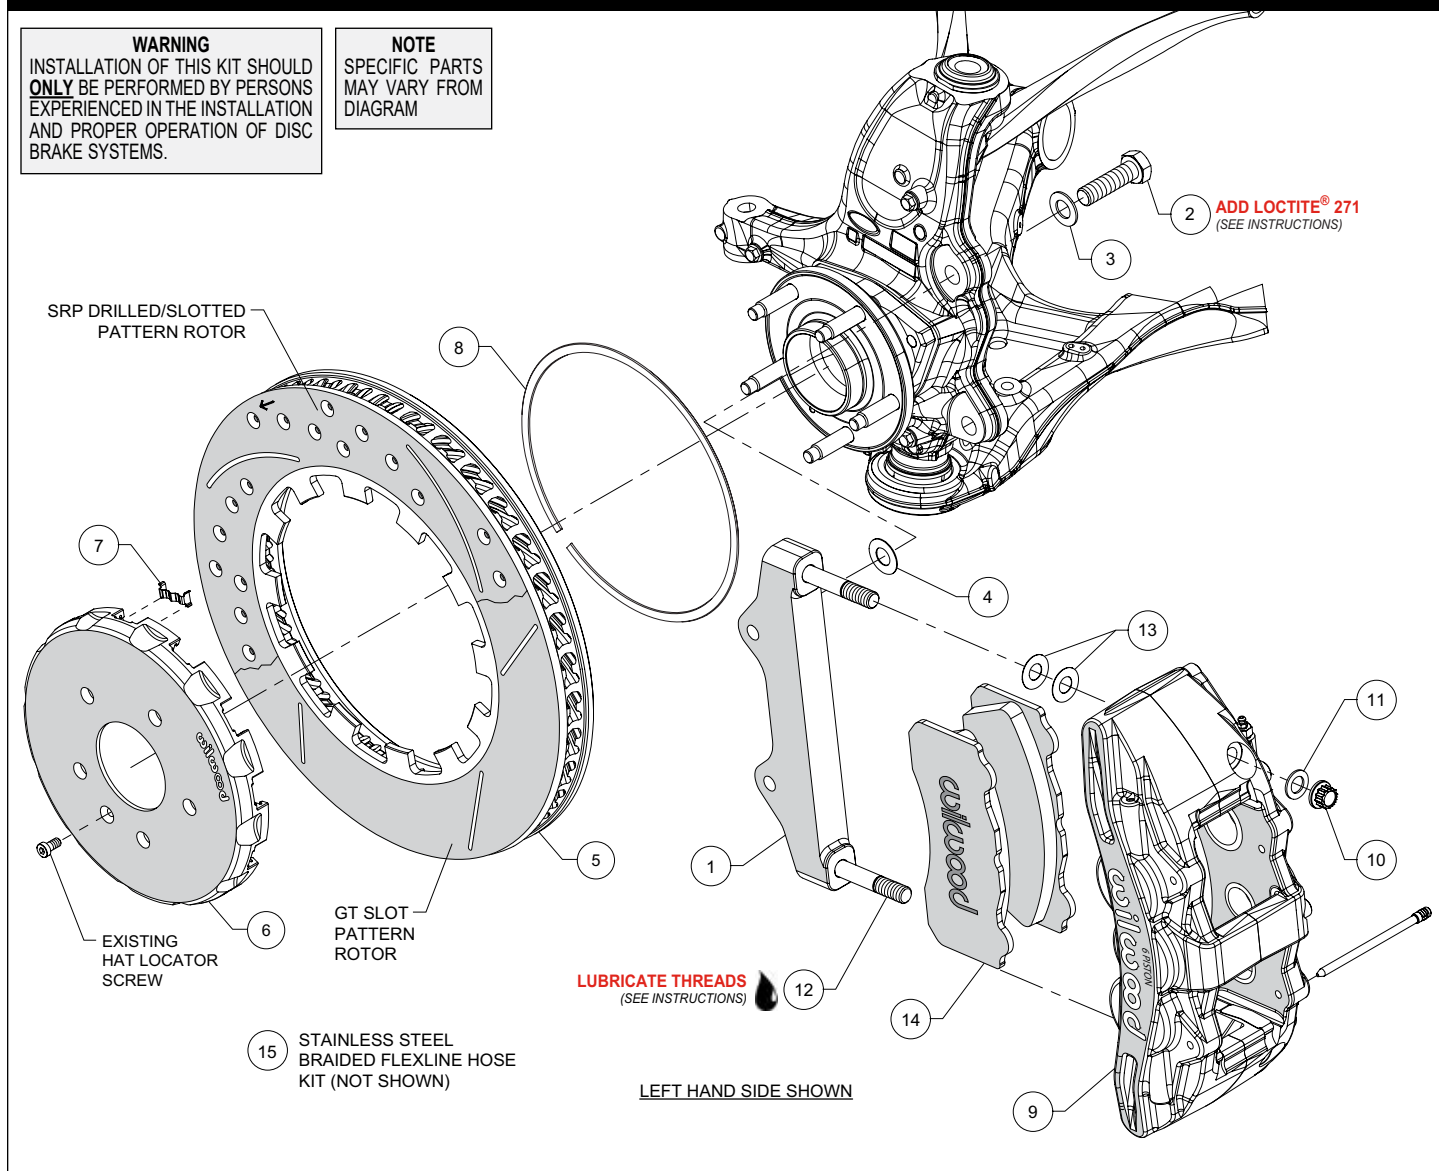

Figure 1. Typical Installation Configuration
NOTE: Numbers in parenthesis refer to the parts list and Figure 1 on the preceding pages.
- The caliper mount bracket (1) should initially be installed with clean, dry threads on the mounting bolts. Orient the bracket, as shown in Figure 1 and Photo 1, and install using bolts (2) and washers (3). Initially place one .029" thick shim (4) on each bolt
between the bracket and upright, Figure 1. Temporarily tighten the mounting bolts. **NOTE:** The bracket must fit squarely against the mount bosses on the upright. Inspect for interference from casting irregularities, machining ridges, burrs, etc. Later, after the caliper alignment has been checked, the mount bolts will be secured using red Loctite® 271.
- Insert the dynamic mount wear clips (7) into the slots in the hat (6), Photo 2. Orient the rotor (5) as shown in Figure 1 and Photo 3, with the flush side of mount lugs facing the hat. Secure the rotor to the hat using the snap ring (8) by simultaneously pushing down on the rotor and installing the ring into the groove in the hat, as shown in Photo 4. Carefully inspect snap ring to ensure complete engagement in the groove.
- Slide the hat/rotor assembly onto the axle hub, Photo 5. **NOTE:** The hat must fit flush against the axle hub flange or excessive rotor run out may result. Install the hat locator screw (OEM), as shown in Figure 1, to keep the hat/rotor assembly in place while continuing with the installation.
- NOTE:** This kit contains distinct right and left hand calipers that must be mounted in a specific direction, as described below. Lubricate the caliper mounting studs (12) with lightweight oil. Initially place two .015" thick shims (13) on each stud between the caliper and the bracket, as shown in Figure 1 and Photo 6. Mount the caliper (9) onto the bracket (1) using lock nuts (10) and washers (11), Figure 1. Temporarily tighten the lock nuts. Ensure that the caliper is mounted so the largest pistons are at the rotor exit end of the caliper, in relation to the forward direction of the rotor. View the rotor through the top opening of the caliper.
- Remove the two pad retaining pins from the caliper (9) by pushing out the pins from the tapered end using a blunt instrument. Insert the brake pads (14) into the caliper from the bottom, Figure 1 and Photo 8. With the friction material facing the rotor, secure the